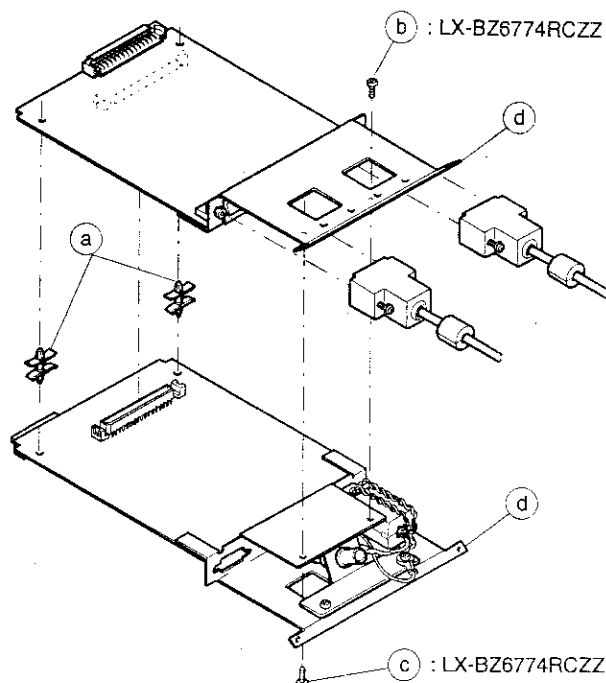

Fig. 4
① Insert two spacers ③ and connect the connectors of the interface PWB together (Fig. 4).
② Secure the brackets ④ with the screws ⑤ and ⑥ (LX-BZ6774RCZZ: Self tap screw). (Fig. 4)